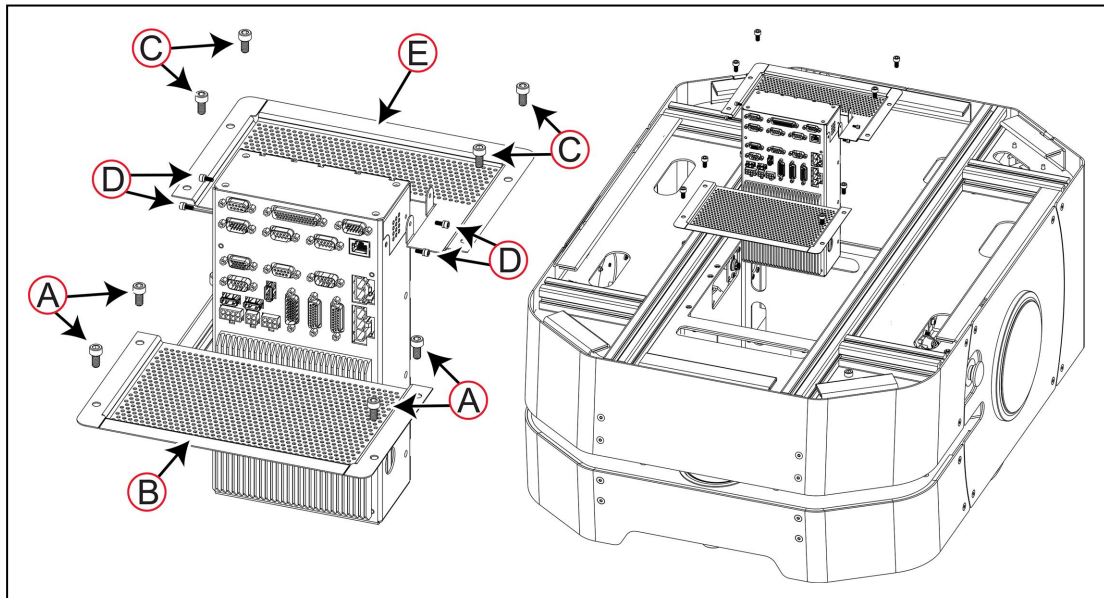

Figure 8-22 LD-250 Core Mounting Brackets and Fasteners
Figure 8-22 shows the mounting brackets and fasteners that you remove to access the LD-250 Core. Retain all fasteners to use when installing the replacement core.
6. Use a 5 mm hex key to remove four 12 mm M6 socket head cap screws (A) and then remove the perforated cover plate [(B) in Figure 8-22].
7. Use a 2.5 mm hex key to remove the four 8 mm M3 socket head cap screws and washers (D) to detach the LD-250 Core from its mounting bracket (E).
8. Use a 5 mm hex key to remove four 12 mm M6 socket head cap screws (C) and then remove the perforated mounting bracket [(E) in Figure 8-22].
3. Use a 2.5 mm hex key to attach the mounting bracket [(E) in Figure 8-22] to the LD-250
4. Use a 5 mm hex key to attach the perforated mounting bracket [(E) in Figure 8-22].
5. Use a 5 mm hex key to attach the perforated cover plate [(B) in Figure 8-22] using four 12 mm M6 socket head cap screws (A).